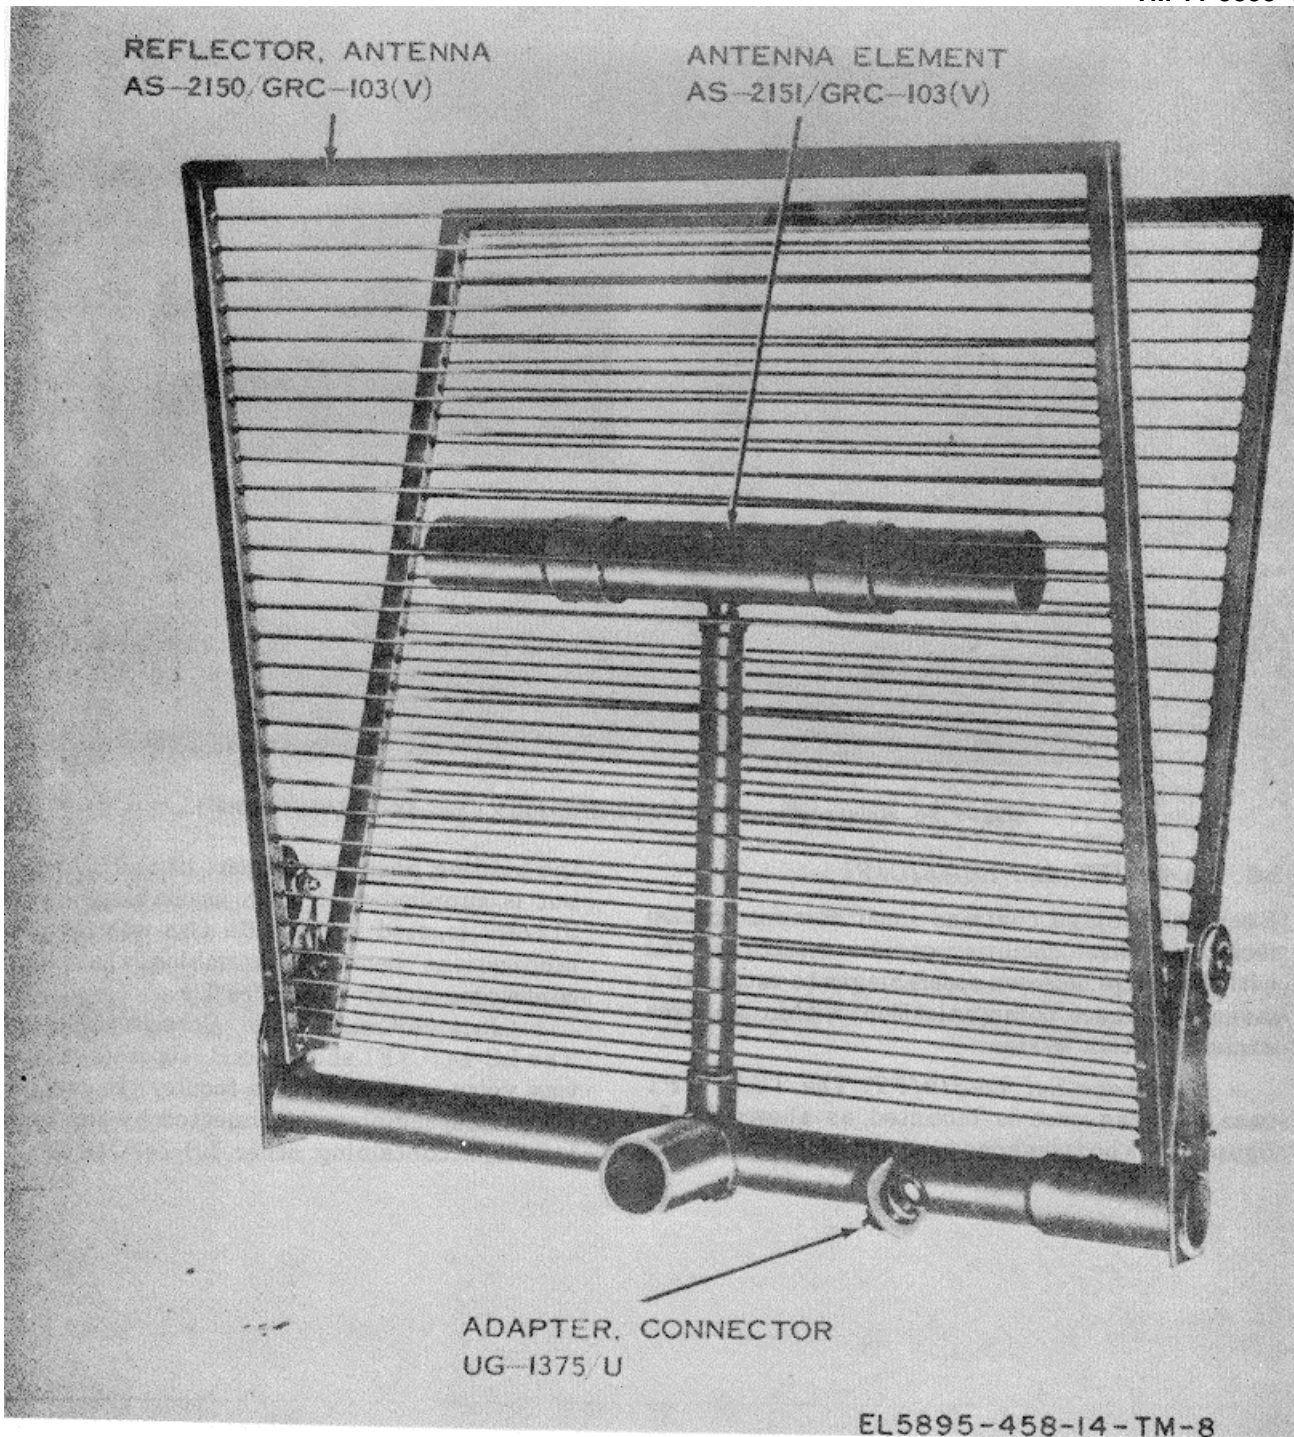
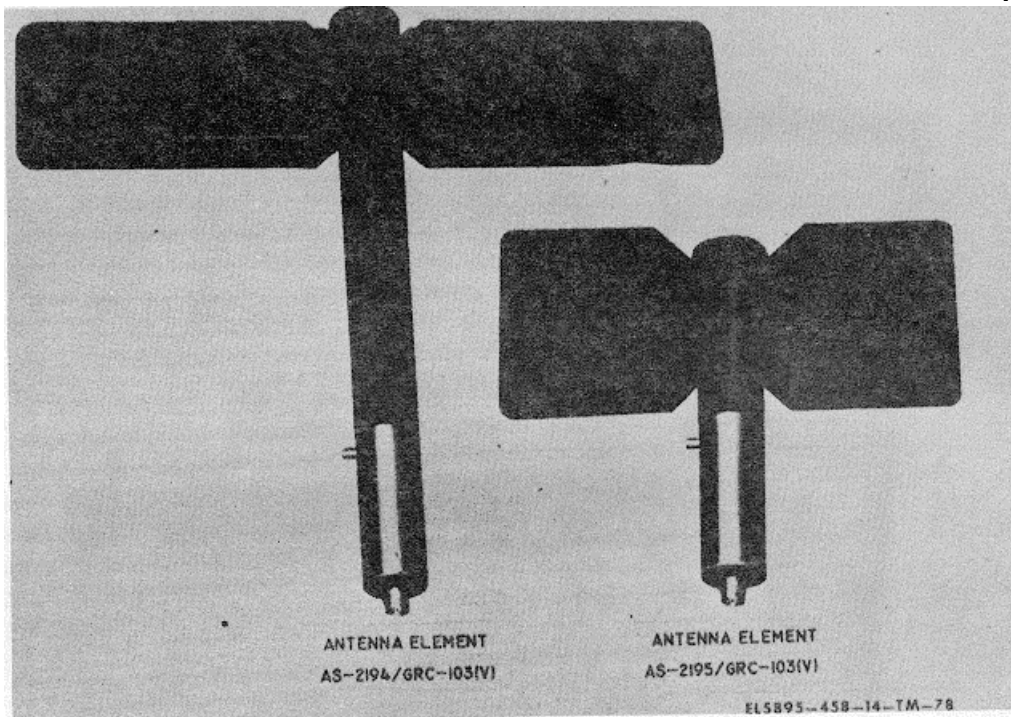

Figure 3-7. Antenna AS-1852/GRC-103(V).
Figure 3-8. Antenna Elements AS-2194/FRC-103(V) and AS-2195/GRC-103(V).
a. *Use.* The antenna assembly consists of Mast AB-952/GRC-103(V) and Antenna AS-1852/GRC-103(V) (fig. 3-7) (Band I), or AS-1853/GRC-103(V) (Band II), or AS-1854/GRC-103(V) (Band III,) (fig. 3-8). Hardware is